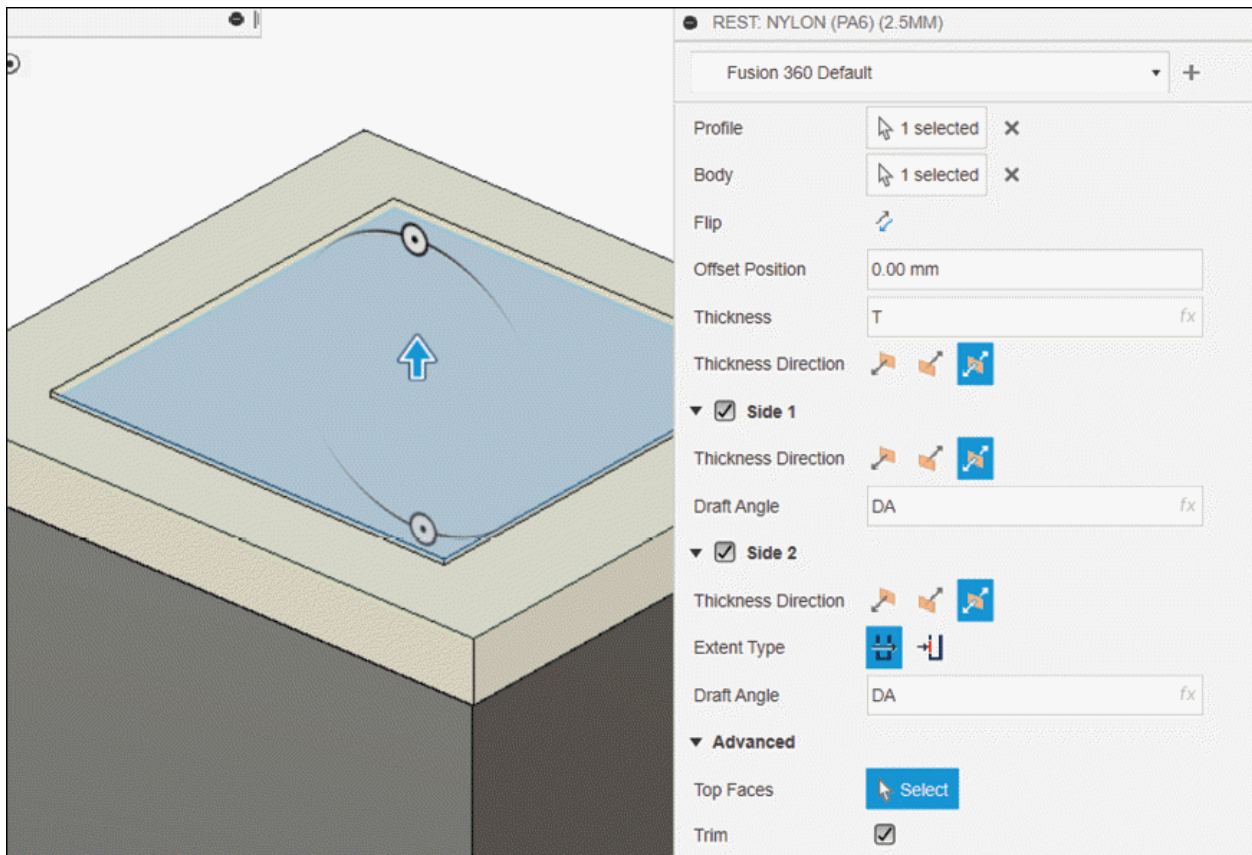

Figure-160. Preview of rest feature
- Select the sketch profile from the model. Preview of rest feature will be displayed and options will be displayed as shown in Figure-160.